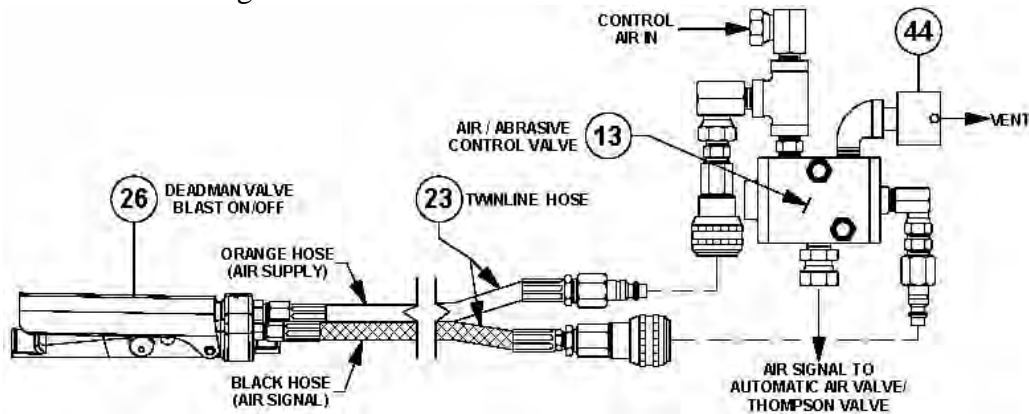

Figure 5.3 – Pneumatic Blast Control System
5.12.1. Pneumatic Deadman System: When the pneumatic deadman lever is pressed down air supply from the orange hose of the twinline hose (#23) flows into the black hose. Air flows through the black hose to the signal port of the control valve (#13) causing it to open and send air signals to the auto air valve (#17) and the Thompson Valve® (#11). When the deadman lever is released the air signal is cut off and the remaining air vents from the breather (#44). See Figure 5.3 and the drawings in Section 9.1.